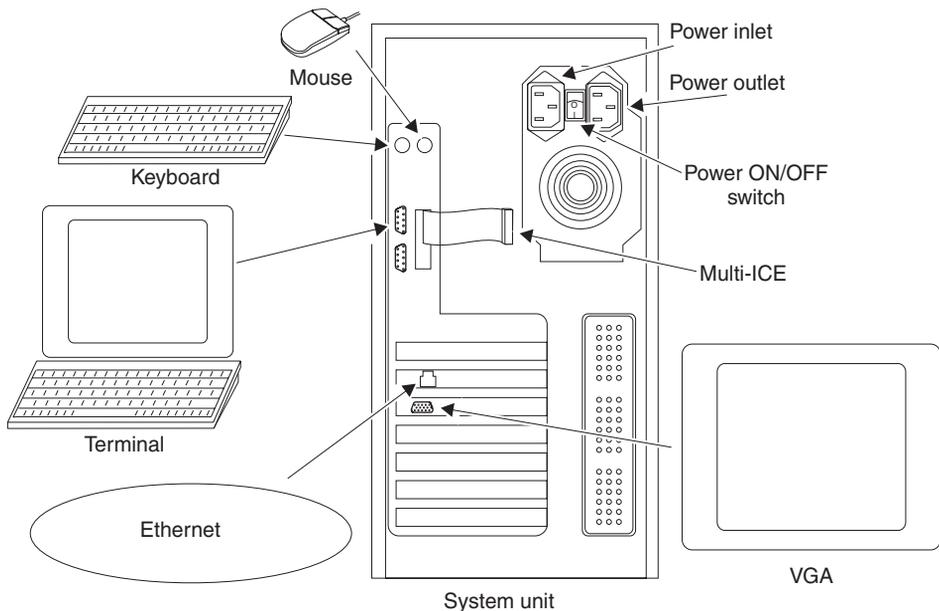
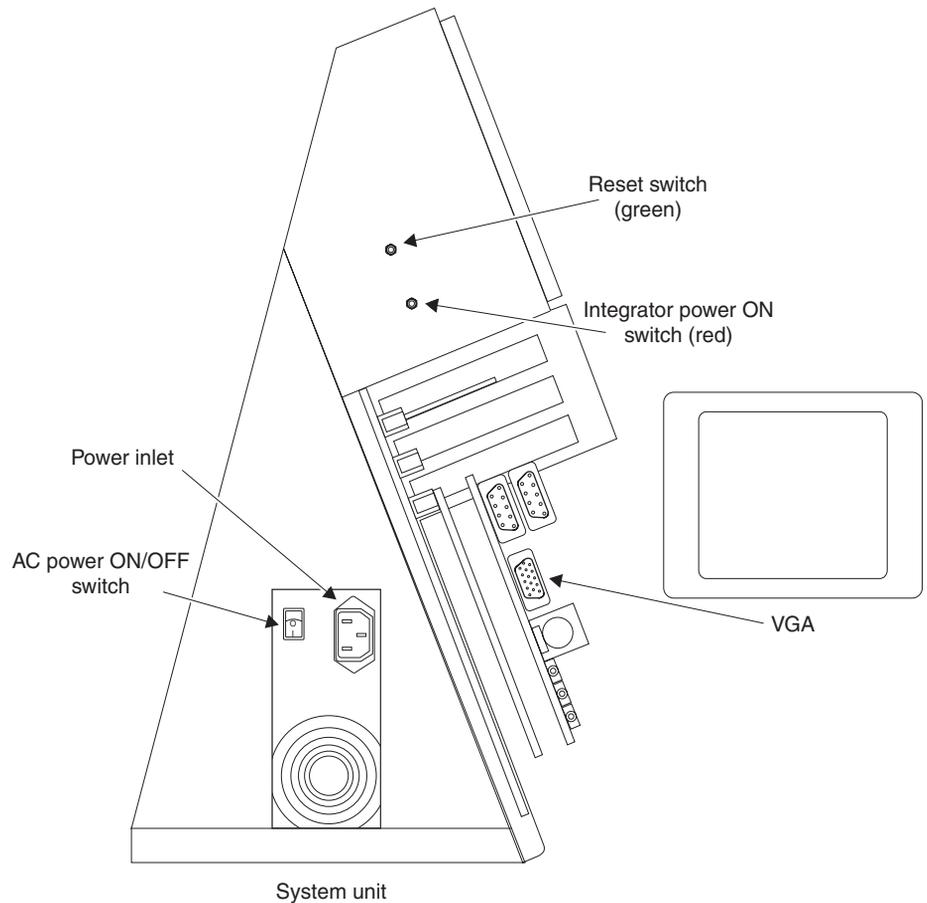
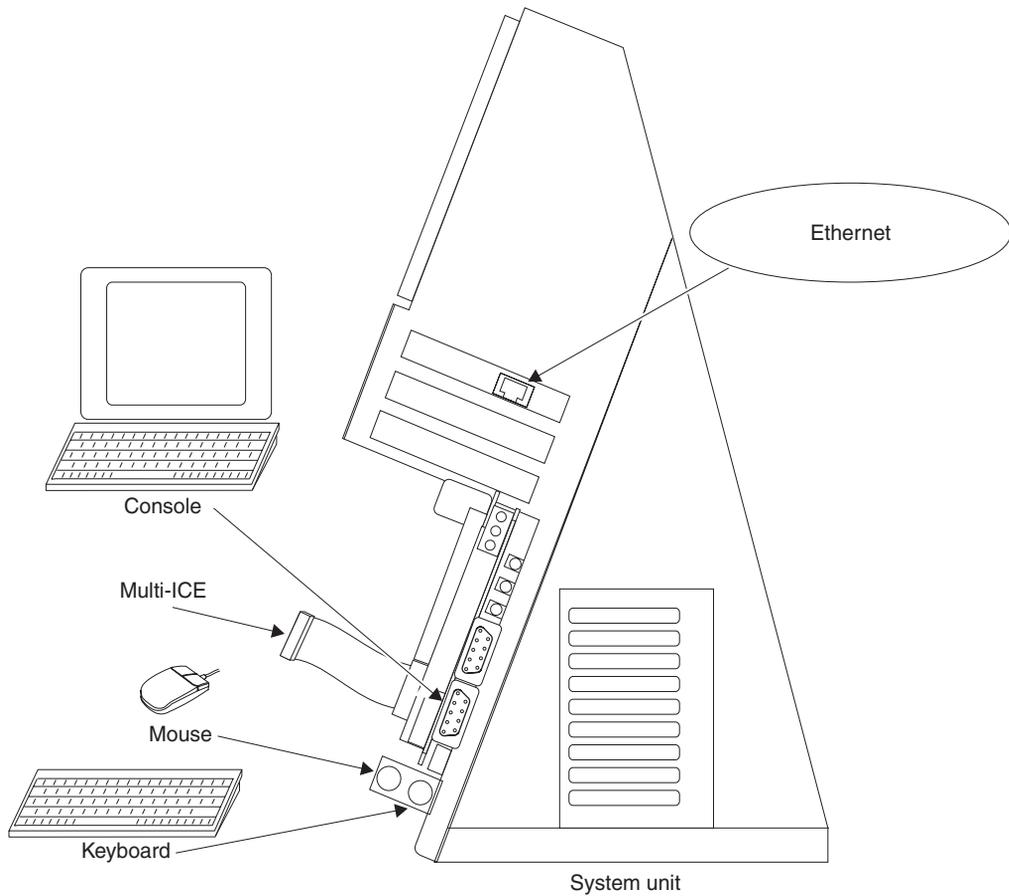

Figure 1-3 Integrator/PP1 system connections
Figure 1-4 Integrator/PP2 connectors and switches (left)
Figure 1-5 Integrator/PP2 connectors (right)
Figure 1-3 shows the locations of the connectors on the rear of the system unit.
1. Connect the system components as shown in Figure 1-3:
Figure 1-4 shows the locations of the connectors and switches on the left side of the system unit.
Figure 1-5 on page 1-6 shows the locations of the connectors and switches on the right side of the system unit.
1. Connect the system components as shown in Figure 1-4 on page 1-5 and Figure 1-5:
- Your Multi-ICE unit, if required, to the Multi-ICE connector on the core module, as shown in Figure 1-5.
3. Connect power to the power connector on the PSU, operate the AC power switch on the PSU and then the Integrator power ON switch on the left side of the system unit, as shown in Figure 1-4 on page 1-5.
- Connect a serial terminal to the Integrator/AP, as shown in Figure 1-3 on page 1-4 or Figure 1-4 on page 1-5. The terminal requires the following settings: